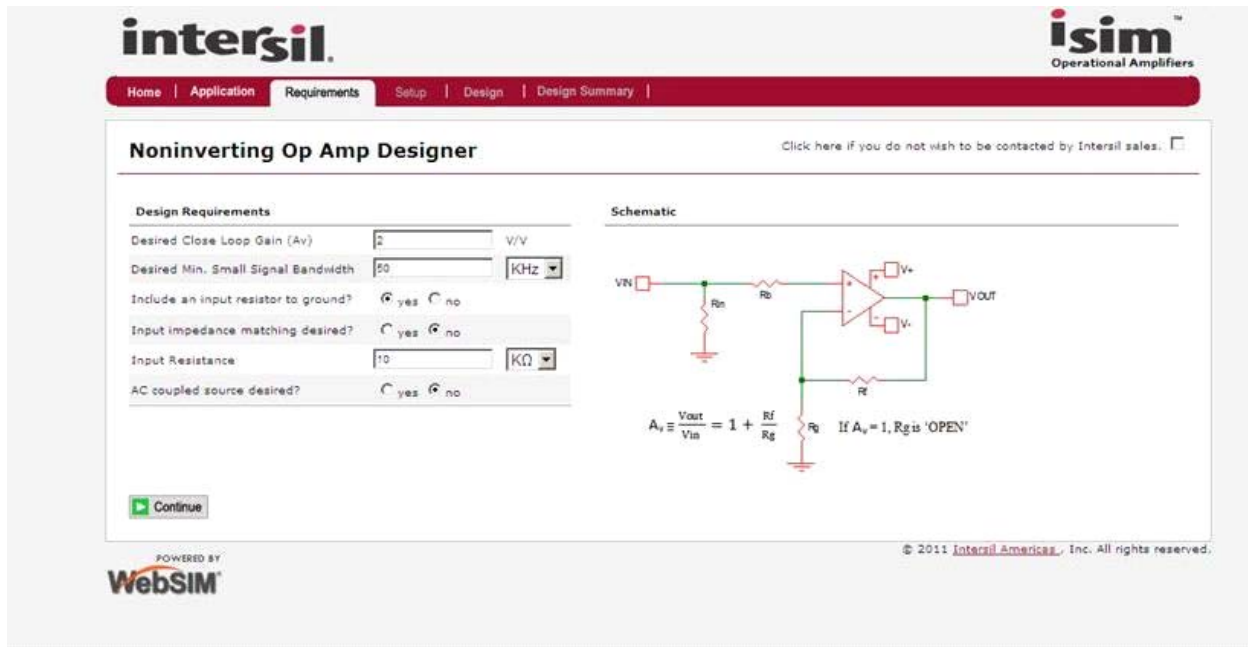
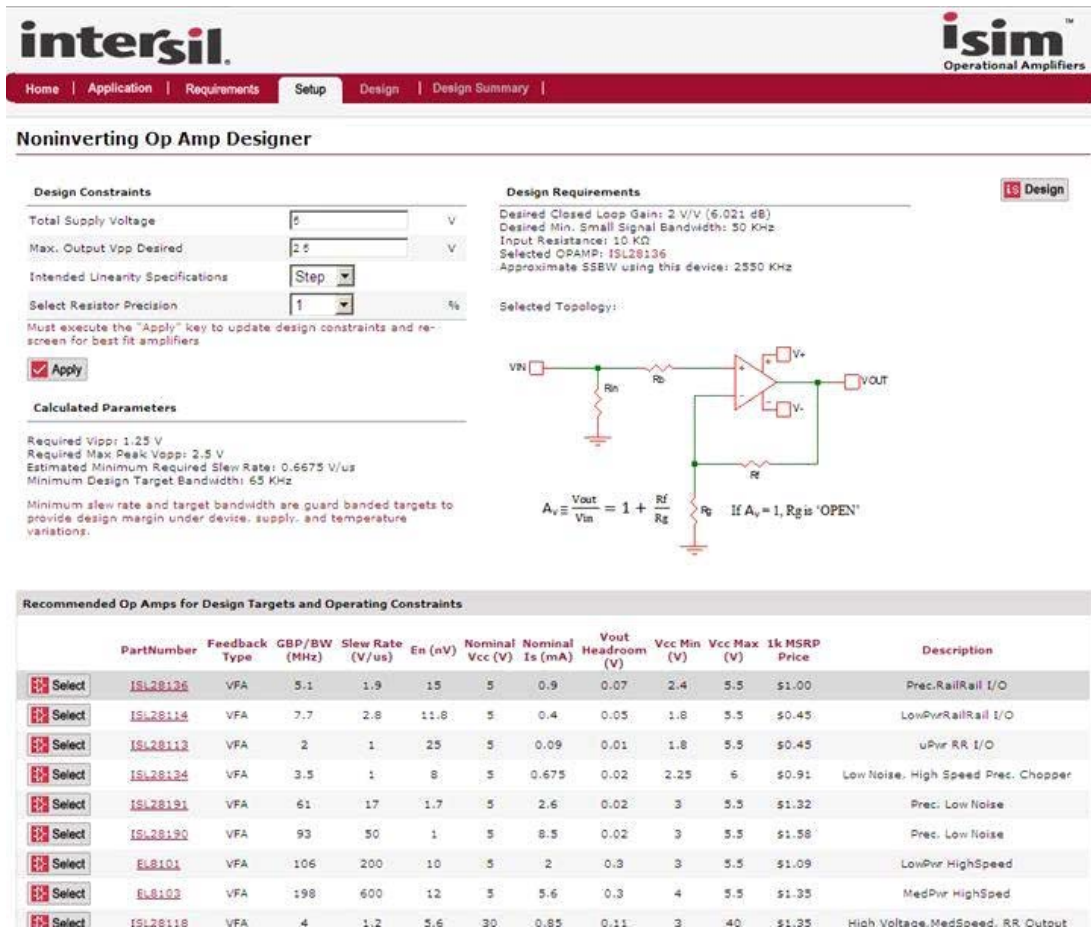
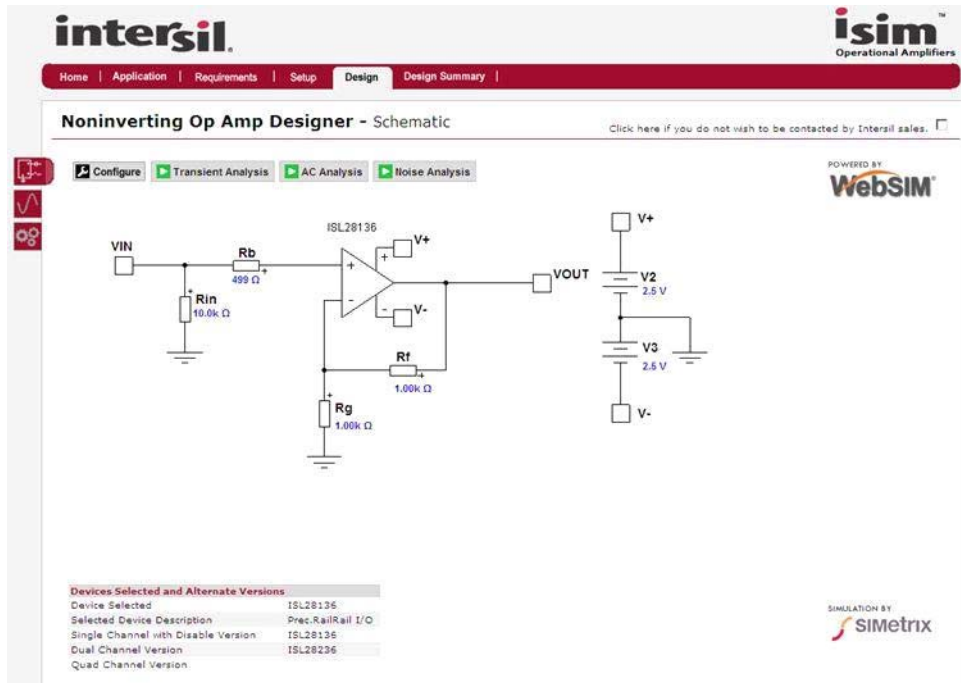

FIGURE 1. DESIGN REQUIREMENTS PAGE WITH DEFAULT SETTINGS
FIGURE 6. SETUP PAGE USING THE DEFAULT SETTINGS
FIGURE 7. DESIGN DELIVERED FROM THE DEFAULT DESIGN FLOW
The tool opens with an assumed set of targets and input network. That screen appears as Figure 1 showing the default gain (2V/V), target minimum bandwidth (50kHz), and desired input impedance (10k Ω).
Going back to the original default design of Figure 1, and hitting "Continue" will take you to the "Setup" page of Figure 6.
The default page shown in Figure 6 has already taken the target requirements and constraints, calculated some required slew rates and bandwidths, screened the available Intersil op amps, and ranked them by order of ascending design margin. Here, the ISL28136 appears as the closest fit and has been selected for "Design" (the red part number in the upper right area). Any of the other devices listed at the bottom may also be selected for design by clicking the "Select" key next to it. Clicking on the red part number will take you to the "Device Information Page" where the different packaging and full data sheets would be available.
While these screening parameters will certainly get a reduced subset of possible solutions, it is not intended that they provide the only device that can be used in the design tool (top one listed and the default selection, ISL28136 in the default design flow). For that reason, the "Setup" page lists all the remaining devices deemed suitable at the bottom (of Figure 6) with a short list of critical parameters that might be of interest to the designer. These include the following:
3. Slew Rate - this will often be the limiting constraint (vs bandwidth) on the proposed solution devices. Looking at the example of Figure 6 using the ISL28136, the estimated closed loop bandwidth of 2550kHz far exceeds the guardbanded target of 65kHz but the available slew rate of 1.9V/ μ s is just above calculated target of 0.67V/ μ s. The design tool is often not able to exactly match all required targets and constraints and instead sorts in ascending design margin from the parameters of the available devices.
4. Input voltage noise for the op amp. This parameter is not used to screen or rank solution options. However, once a device is selected, the solution algorithms will attempt to control the noise added by the resistors to be a minor contribution to total output noise vs. the noise contribution of the op amp terms themselves. So, if output noise is of principal concern, pick the lowest noise device in the screened amplifier list - in Figure 6, that would be the ISL28190. Doing this often comes
Hitting the "Design" button at the upper right or lower left will take the desired targets and selected device and execute the design for the feedback and gain resistors as well as the Rb element. Doing that from the default page of Figure 6 gives the design shown in Figure 7.
1. Noise added by the resistors should not dominate the output noise. In the circuit of Figure 7 this includes the Rb element
2. The effect of the total feedback loading is considered. There, the $R_f + R_g$ appear as a load in this design and both a maximum current for the specified maximum output $V_{p,p}$ is checked as well as a minimum loading before the frequency response is impacted through op amp output impedance. For this default design, the ISL28136 is looking for something $\geq 2k\Omega$ load before 2nd order output impedance issues start to impact the small signal frequency response giving increasing deviation from a gain bandwidth calculation. That consideration has in fact set the R_f value in the example of Figure 7.